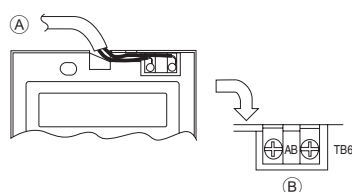

Fig. 6-4
- (C) Wall
- (D) Conduit
- (E) Lock nut
- (F) Bushing
- (G) Switch box
- (H) Remote controller cord
- (I) Seal with putty
- (J) Wood screw
2) Connecting procedures (Fig. 6-4)